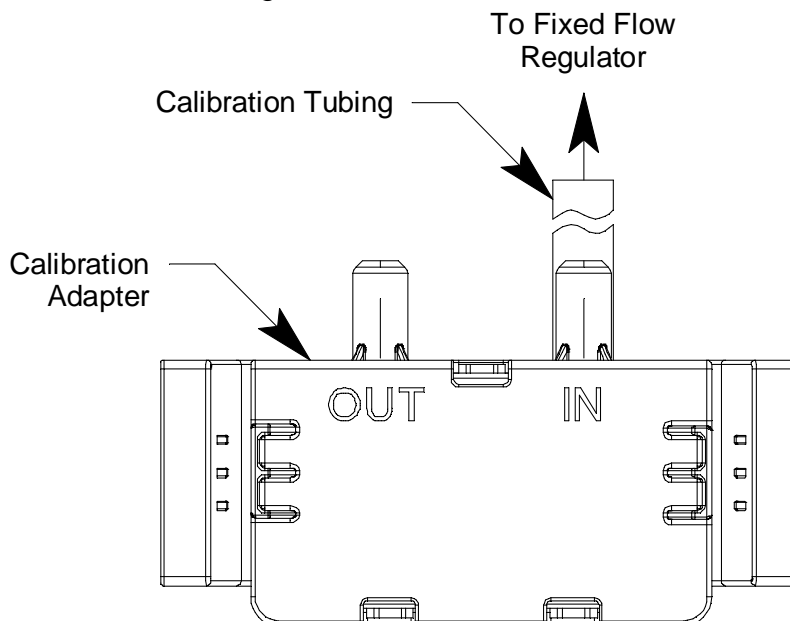

Figure 11: Calibration Kit Assembly
3. Use the sample tubing to connect the calibration adapter to the regulator. Attach the tubing to the calibration adapter on the inlet side as shown below in Figure 11.